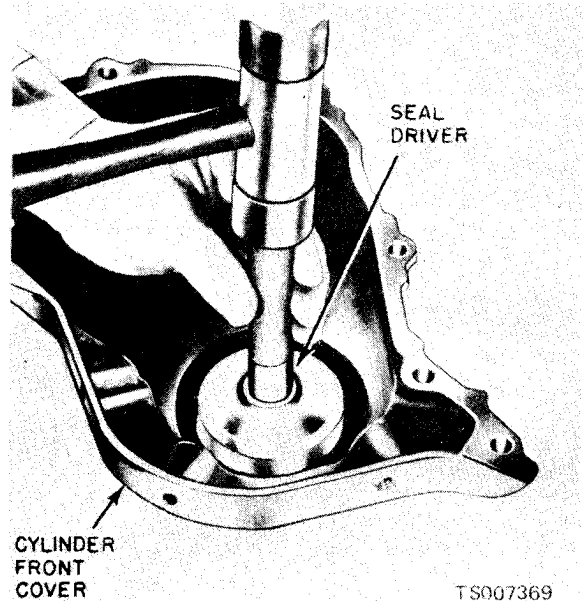
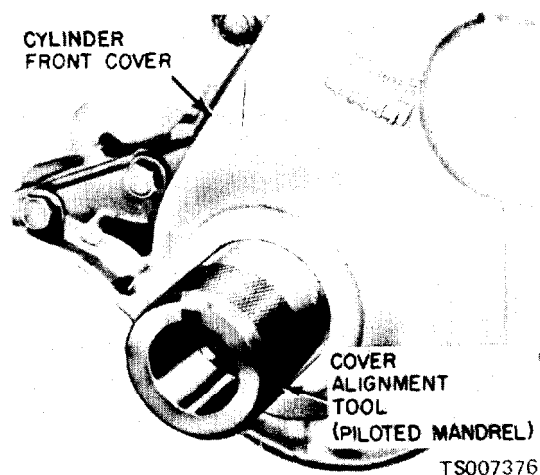

Figure 6-40. Installing Crankshaft Front Oil Seal.
Figure 6-47. Aligning Cylinder Front Cover.
(22) Clean the oil pan, oil pump and oil pump screen.
(23) Install the inlet tube and screen on the oil pump. Prime the oil pump by filling the inlet opening with oil and rotate the pump shaft until oil emerges from the outlet opening. Install it with a new gasket. Torque the attaching bolts to specifications.
(24) Turn the engine on the work stand so that the rear of the engine is up. Position the engine rear cover plate on the cylinder block. Position the flywheel on the crankshaft. Coat the threads of the attaching bolts with oil-resistant sealer and install the bolts. Torque the bolts to specifications.
(25) Turn the engine on the work stand so that the front end is up.
(26) Install the crankshaft gear following the procedure under Timing Gear Installation, paragraph 6-39.
(27) Install a new crankshaft front oil seal in the cylinder front cover (fig. 6-40). Install the cylinder front cover and crankshaft damper by following the procedure outlined under Cylinder Front Cover Installation, paragraph 6-36.
(1) Clean, inspect and polish the rear oil seal rubbing surface on the crankshaft, following the procedures in paragraph 6-30. Coat a new oil seal and the crankshaft with a light film of engine oil. Start the seal in the recess and install it with the tool as shown in figure 6-40. Keep the tool straight with the centerline of the crankshaft and install the seal until the tool contacts the cylinder block surface. Remove the tool and inspect the seal to be sure it was not damaged during installation.
(2) Install the engine rear cover plate. Position the flywheel on the crankshaft flange. Coat the threads of the flywheel attaching bolts with oil-resistant sealer and install the bolts. Torque the bolts in sequence across from each other to specifications.
(3) Install the transmission, following the procedure in Chapter 2, Section IV. Do not adjust the transmission linkage.
(1) Coat a new seal with grease and install the seal (fig. 6-40). Drive the seal in until it is fully seated in the recess. After installation, check to be sure the seal is properly positioned in the cover and the spring is properly positioned in the seal.
(2) Clean the cylinder front cover and the gasket surfaces of the cylinder block. Coat the gasket surface of the block and cover with oil-resistant sealer. Position a new gasket on the block.
(3) Insert the small diameter end of the cover alignment tool in the bore of the cover. Position the cover and pilot assembly over the end of the crankshaft and against the block (fig. 6-47), being careful to align the cover flush with the cylinder block oil pan gasket surface. Install the alternator adjusting arm and cylinder front cover bolts. Torque all the bolts to specifications.